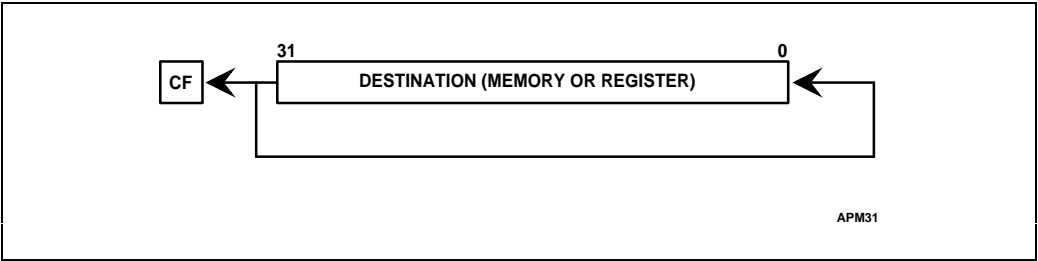

Figure 4-11. ROL Instruction
**ROL (Rotate Left)** rotates the byte, word, or doubleword destination operand left by one bit position or by the number of bits specified in the count operand (an immediate value or a value contained in the CL register). For each bit position of the rotation, the bit which exits from the left of the operand returns at the right. See Figure 4-11.